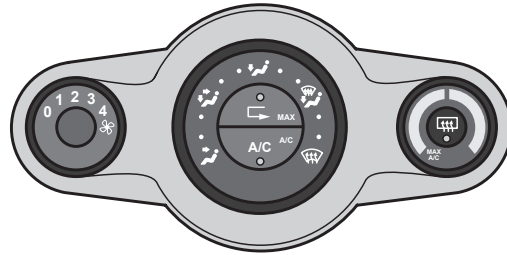

Figure Q2(a)
2. The control panel for the climate-control system in a car is shown in Figure Q2(a). A combinational-logic system controls the operation of a compressor (C).
A truth table for the system is shown in Figure Q2(b).